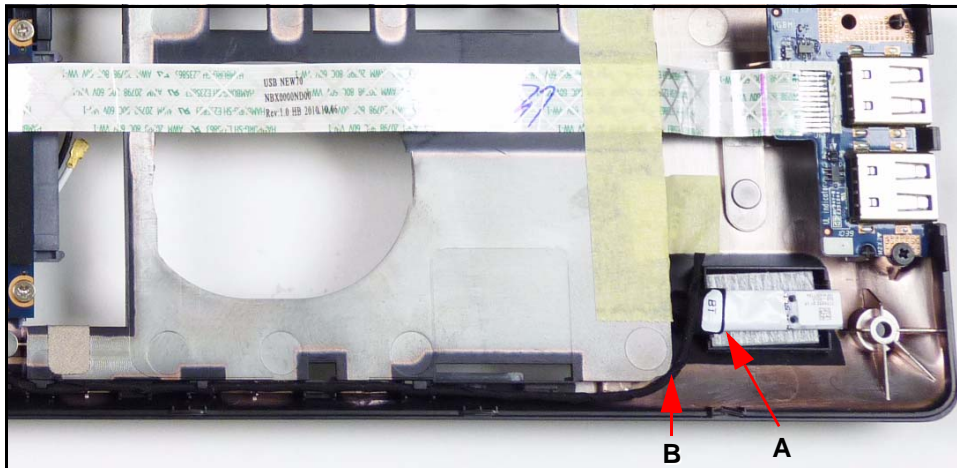

Figure 3-27. Bluetooth Module
2. Disconnect Bluetooth cable (B) from Bluetooth board connector (A). (Figure 3-27)
3. Remove the Bluetooth board from the lower cover. (Figure 3-27)
1. Connect Bluetooth cable (B) to Bluetooth board connector (A). (Figure 3-27)
2. Install and secure Bluetooth board to lower cover. (Figure 3-27)